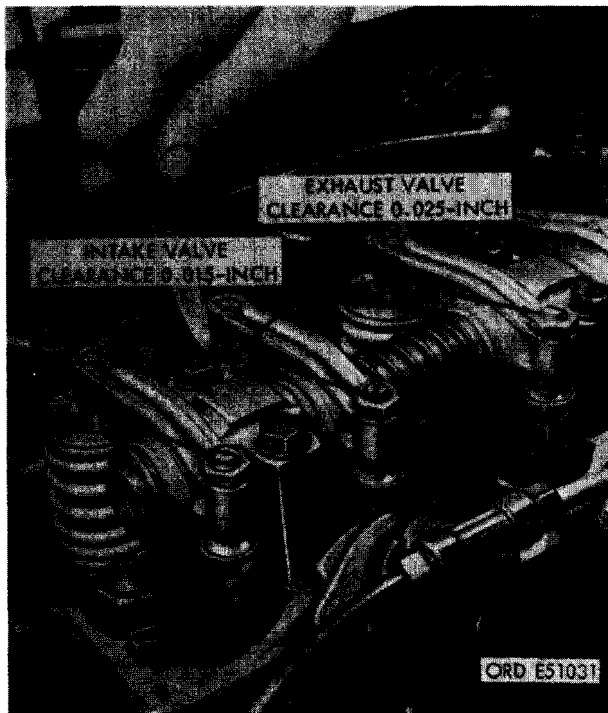

FIGURE 183. ADJUSTING INTAKE AND EXHAUST VALVE CLEARANCE.
- (1) Figure 183. (A) Turn intake valve rocker arm adjusting screw as necessary to obtain a clearance of 0.015- inch. Tighten valve rocker arm adjusting screw lock nut after proper clearance is obtained, holding adjusting screw stationary while tightening lock nut. (B) Turn exhaust valve rocker arm adjusting screw as necessary to obtain a clearance of 0.025- inch. Tighten valve rocker arm adjusting screw lock nut after proper clearance is obtained, holding adjusting screw stationary while tightening lock nut.
- (2) Adjust valve clearance following instructions for figure 183.
- (3) Adjust valve clearance following instructions for figure 183.
- (4) Adjust valve clearance following instructions which accompany figure 183.